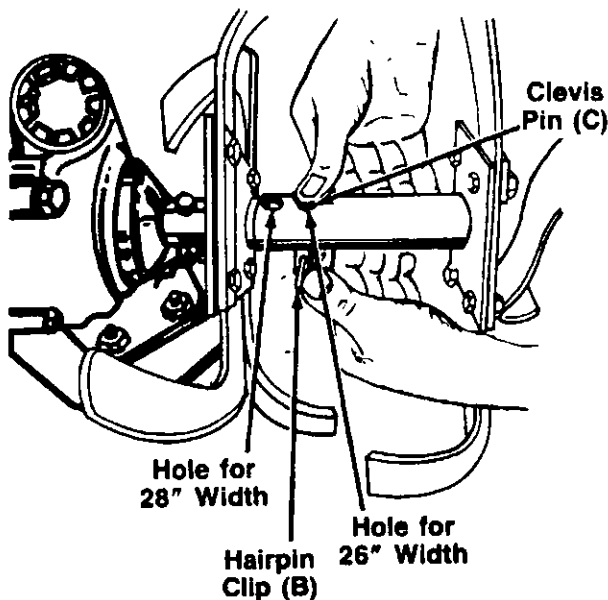

FIGURE 13.
3. Align one of the holes in the tine assembly with the hole in the tine shaft. Using the end hole on the tine assembly will give a tilling width of 28". Using the second hole will give a tilling width of 26". See figure 13.